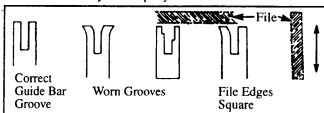

Figure 31
- the guide bar is bent or cracked. See Figure 31.